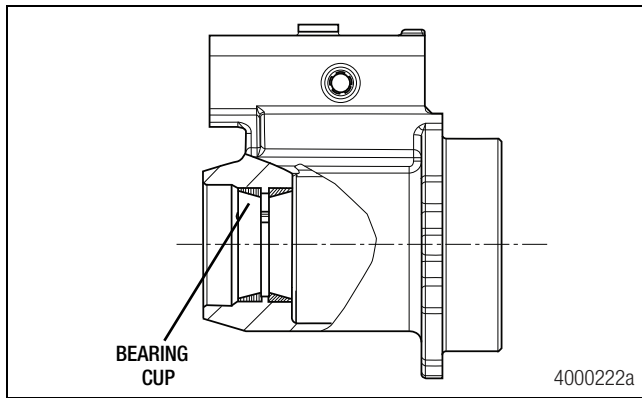

Figure 8.8
- a. Install the bearing cups into the PTO bearing cage housing. This is an interference fit. Freeze the bearing to -65°F (-54°C) and position the two cups into the housing bores. As the cups warm up to ambient temperature, they can move off their seat. Use a bearing cup driver to ensure they are seated. Figure 8.8.